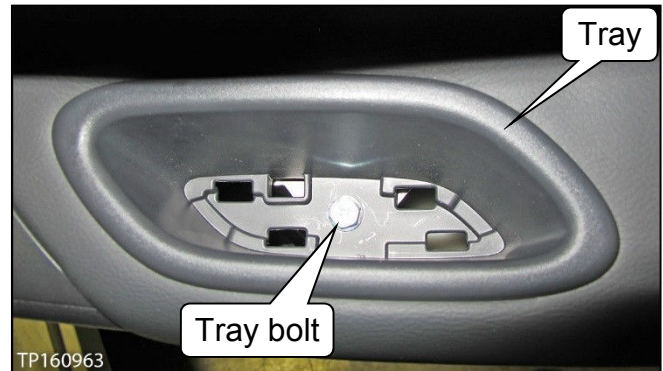

Figure 4
5. Remove the tray bolt and tray (see Figure 4).